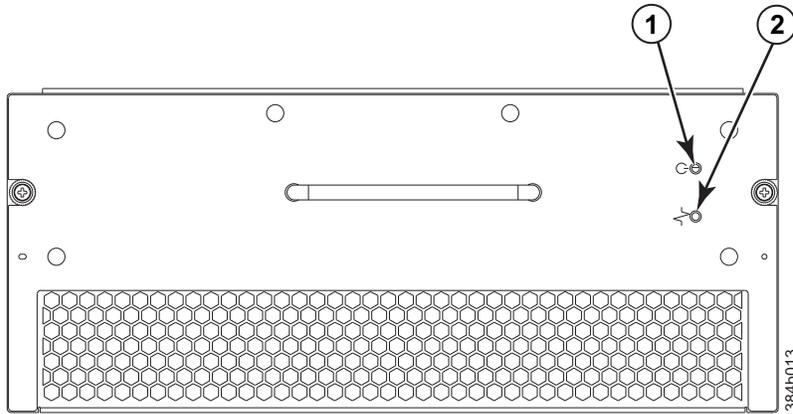

Figure 29. Blower assembly LEDs
1. Check the LED indicators on the blower assembly (see Figure 29 on page 58). The LED patterns may temporarily change during POST and other diagnostic tests; for information about how to interpret the LED patterns, see Table 13 on page 58.
Figure 29 on page 58 displays the blower assembly.